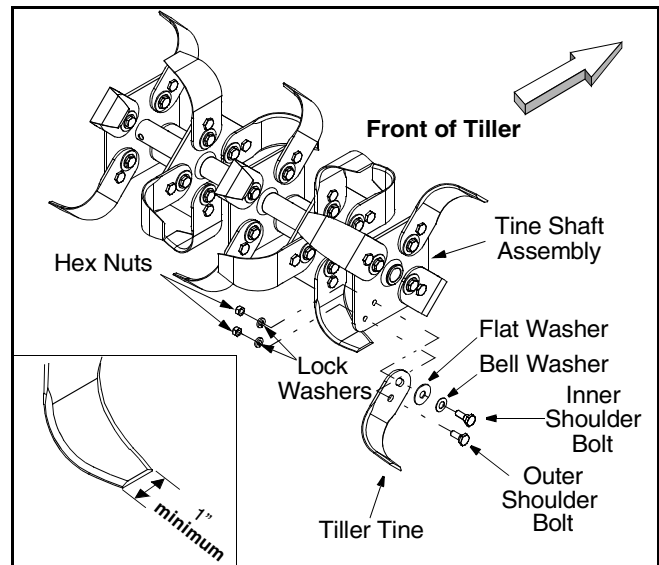

Figure 19
- Use two wrenches (one 9/16" wrench to prevent the hex nut from spinning, and one 3/4" wrench to loosen the inner shoulder bolt) to remove the inner shoulder bolt. See Figure 19.
- Repeat the previous step on the outer shoulder bolt. See Figure 19.
- Place the replacement tine in position on the tine shaft assembly and fasten in the same manner the original tine was secured with the inner shoulder bolt and outer shoulder bolts removed earlier. Refer to Figure 19.